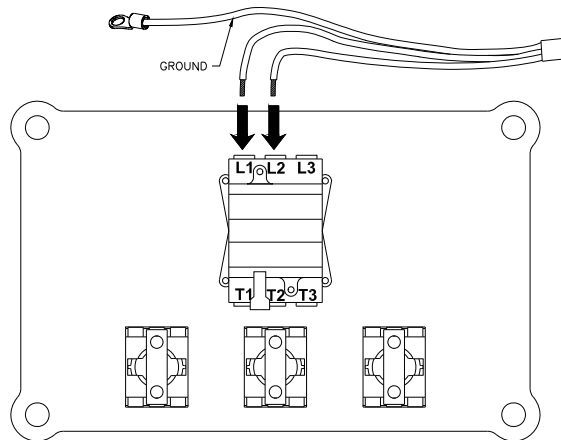

Fig. 4 – Power Supply Connection
- 11) Connect the electrical supply to the contactor (L1 & L2) on the back side of the cover, Fig. 4. Connect the ground wire to the console below the cover.